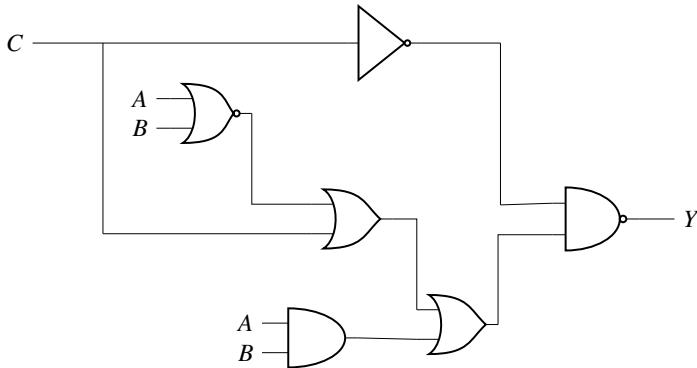

Fig. 3.21
38. In the circuit shown in Fig. 3.21, if $C = 0$, the expression for Y is